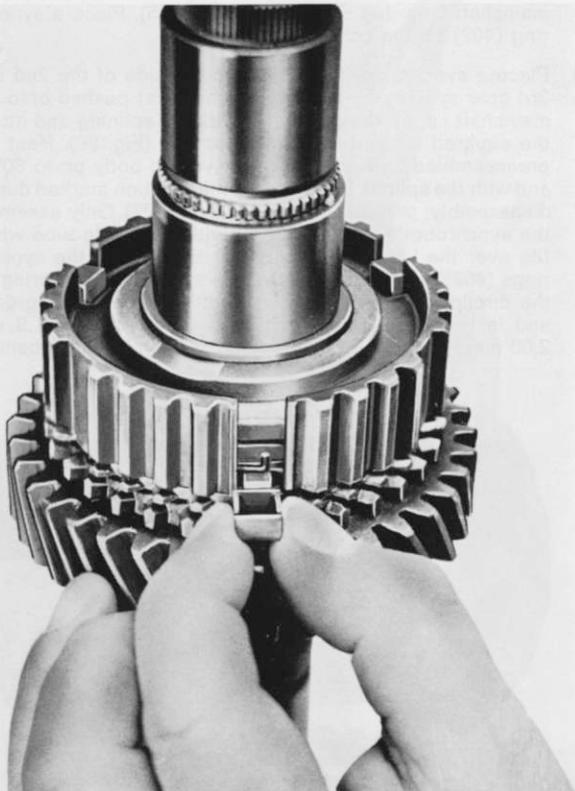

Fig. 28
- Attach the 3 pressure pieces (404) with grease to the assembled synchro spring such that the wire is fixed in the recesses of the pressure pieces. The squared off end of the synchro spring must come to lie on the inside of a pressure piece (Fig. 28) so that the spring cannot distort.
13. Stick the 3 pressure pieces (404) with grease on the assembled synchro spring (403) (see Fig. 28). The wire must stick in the grooves of the pressure pieces and the squared off ends lie on the inner side of the pressure piece.
9. Take off tape. Stick the 3 pressure pieces (404) with grease onto the installed synchro spring on synchro body 4th and 5th gear (405) such that the wire is fixed in the recesses and the squared off end on the inner side of a pressure piece (see Fig. 28).